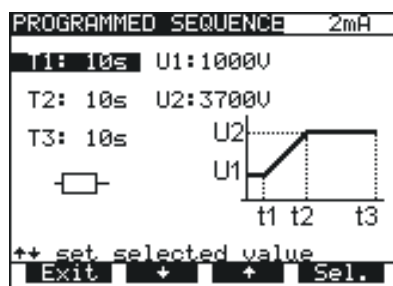

Fig. 12. Timer T1 is selected, change value by using $\uparrow \downarrow$ keys
- To change U and T values press **U/T** key. Value **T2** represent time from **t1** to **t2** and value **T3** represent time from **t2** to **t3** (fig. 12). Menu for selection and changing values is displayed, see the following figure: